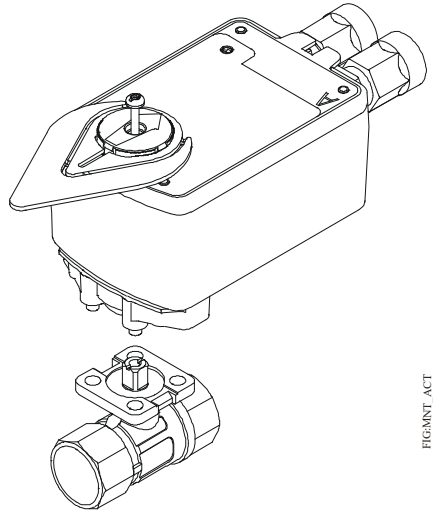

Figure 9: Mount the actuator
7. Install the actuator on the ball valve (Figure 9). Tighten the actuator mounting screw to a torque of 10 to 12 lb·in. (1.1 to 1.4 N·m) and snap the large adjustable pointer into place.